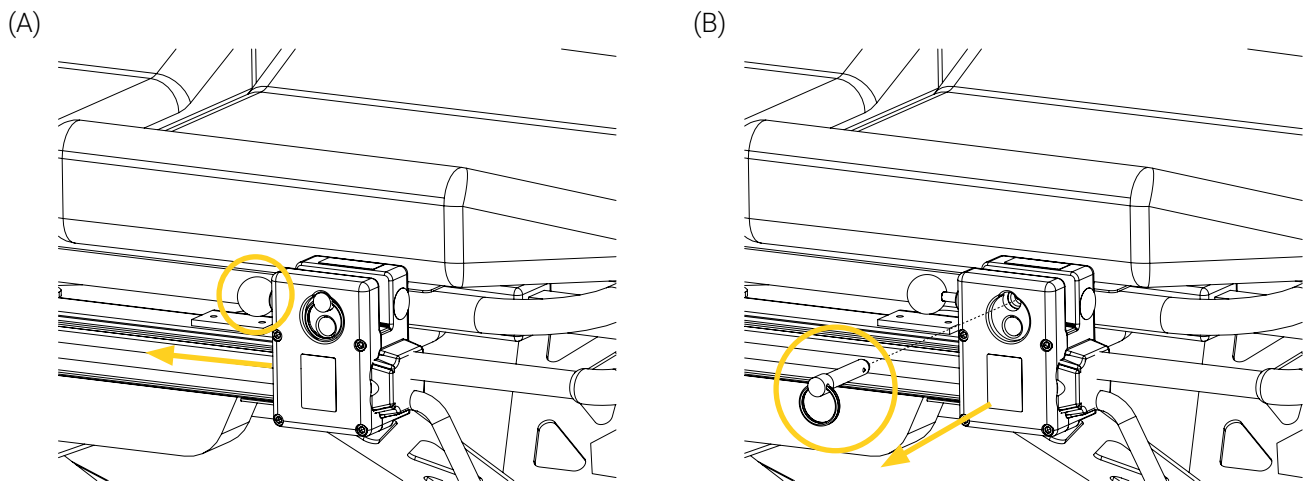

Figure 8: Removing the lock pin
1. Pull the knob of the clamp block (Figure 8 A) and remove the lock pin using the finger ring (Figure 8 B).